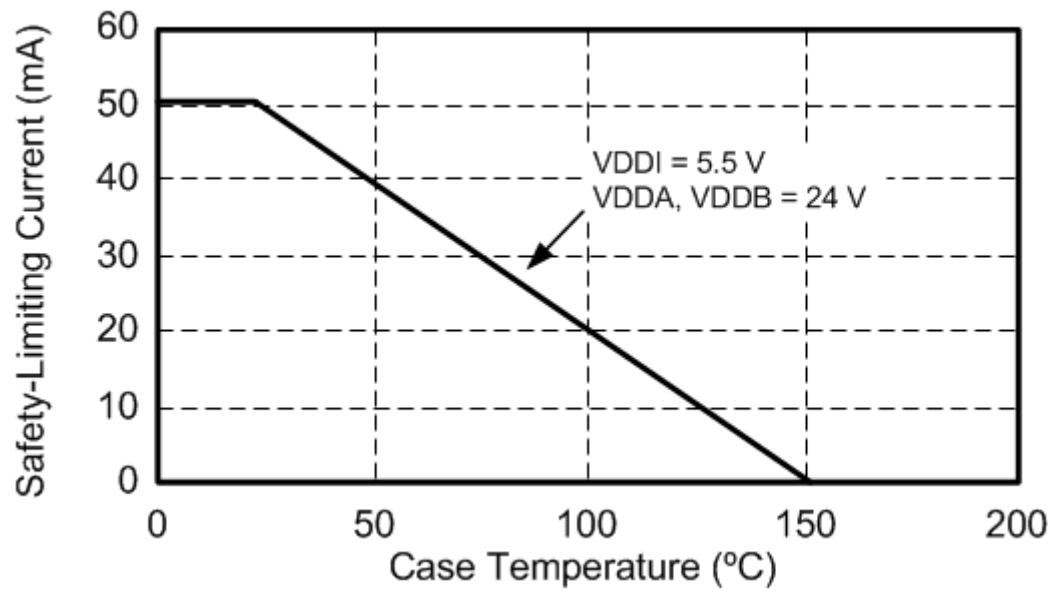

Figure 4.4. WB SOIC-16, NB SOIC-16 Thermal Derating Curve, Dependence of Safety Limiting Values with Case Temperature per VDE 0884-10
- Maximum value allowed in the event of a failure. Refer to the thermal derating curve in [Figure 4.4 WB SOIC-16, NB SOIC-16 Thermal Derating Curve, Dependence of Safety Limiting Values with Case Temperature per VDE 0884-10](#) on page 28.